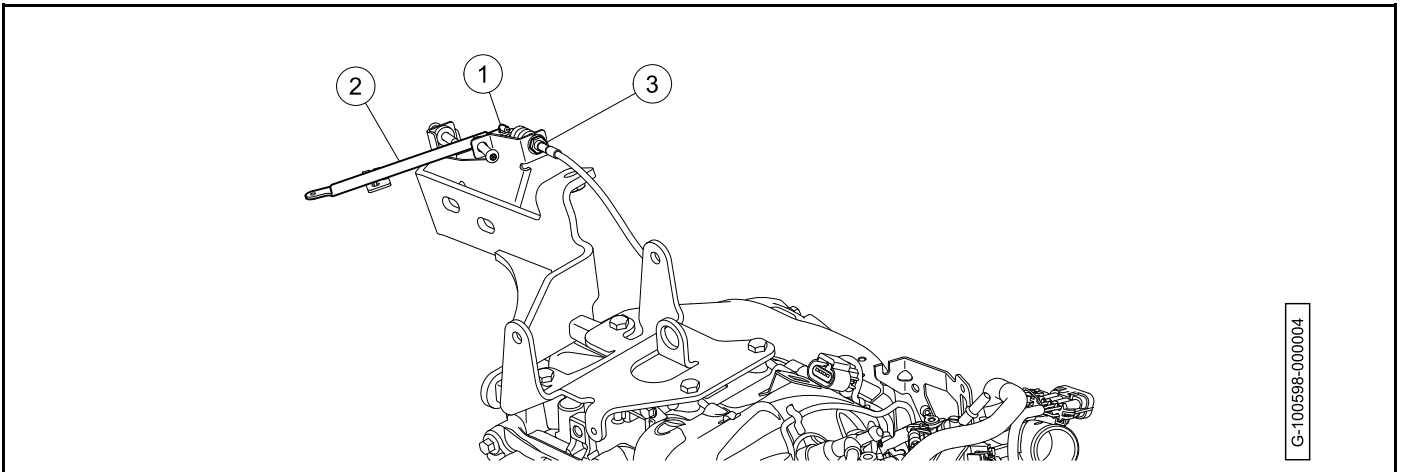

Figure 22-2 Governor Cable Removal - Governor Arm
- 4.1. Disconnect "Z" fitting of governor cable (1) from governor arm (2) (**Figure 22-2, Page 22-3**).